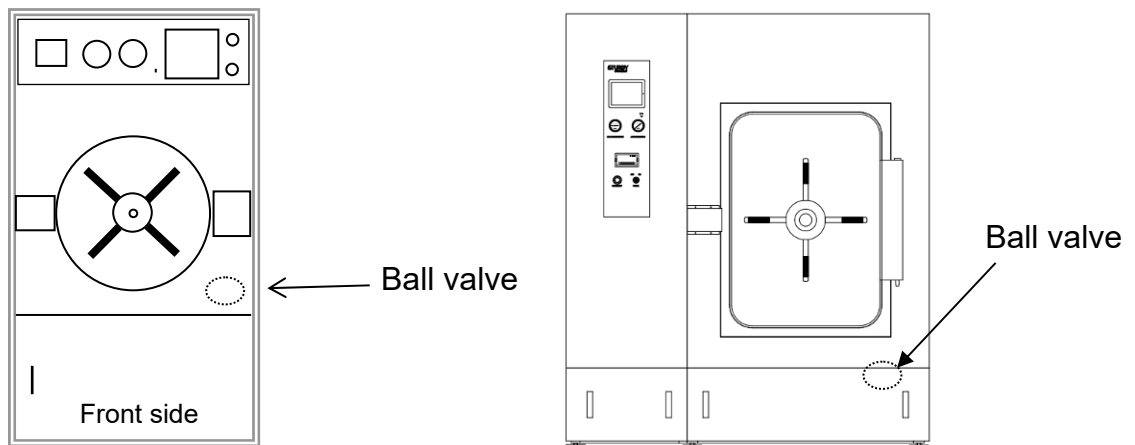
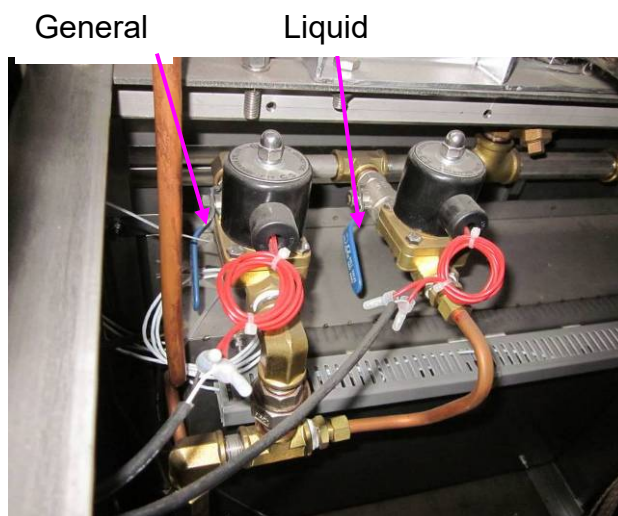

Figure 5
Figure 6
2. Adjust the ball valve while in the exhaust stage. See Figure 5 and Figure 6.